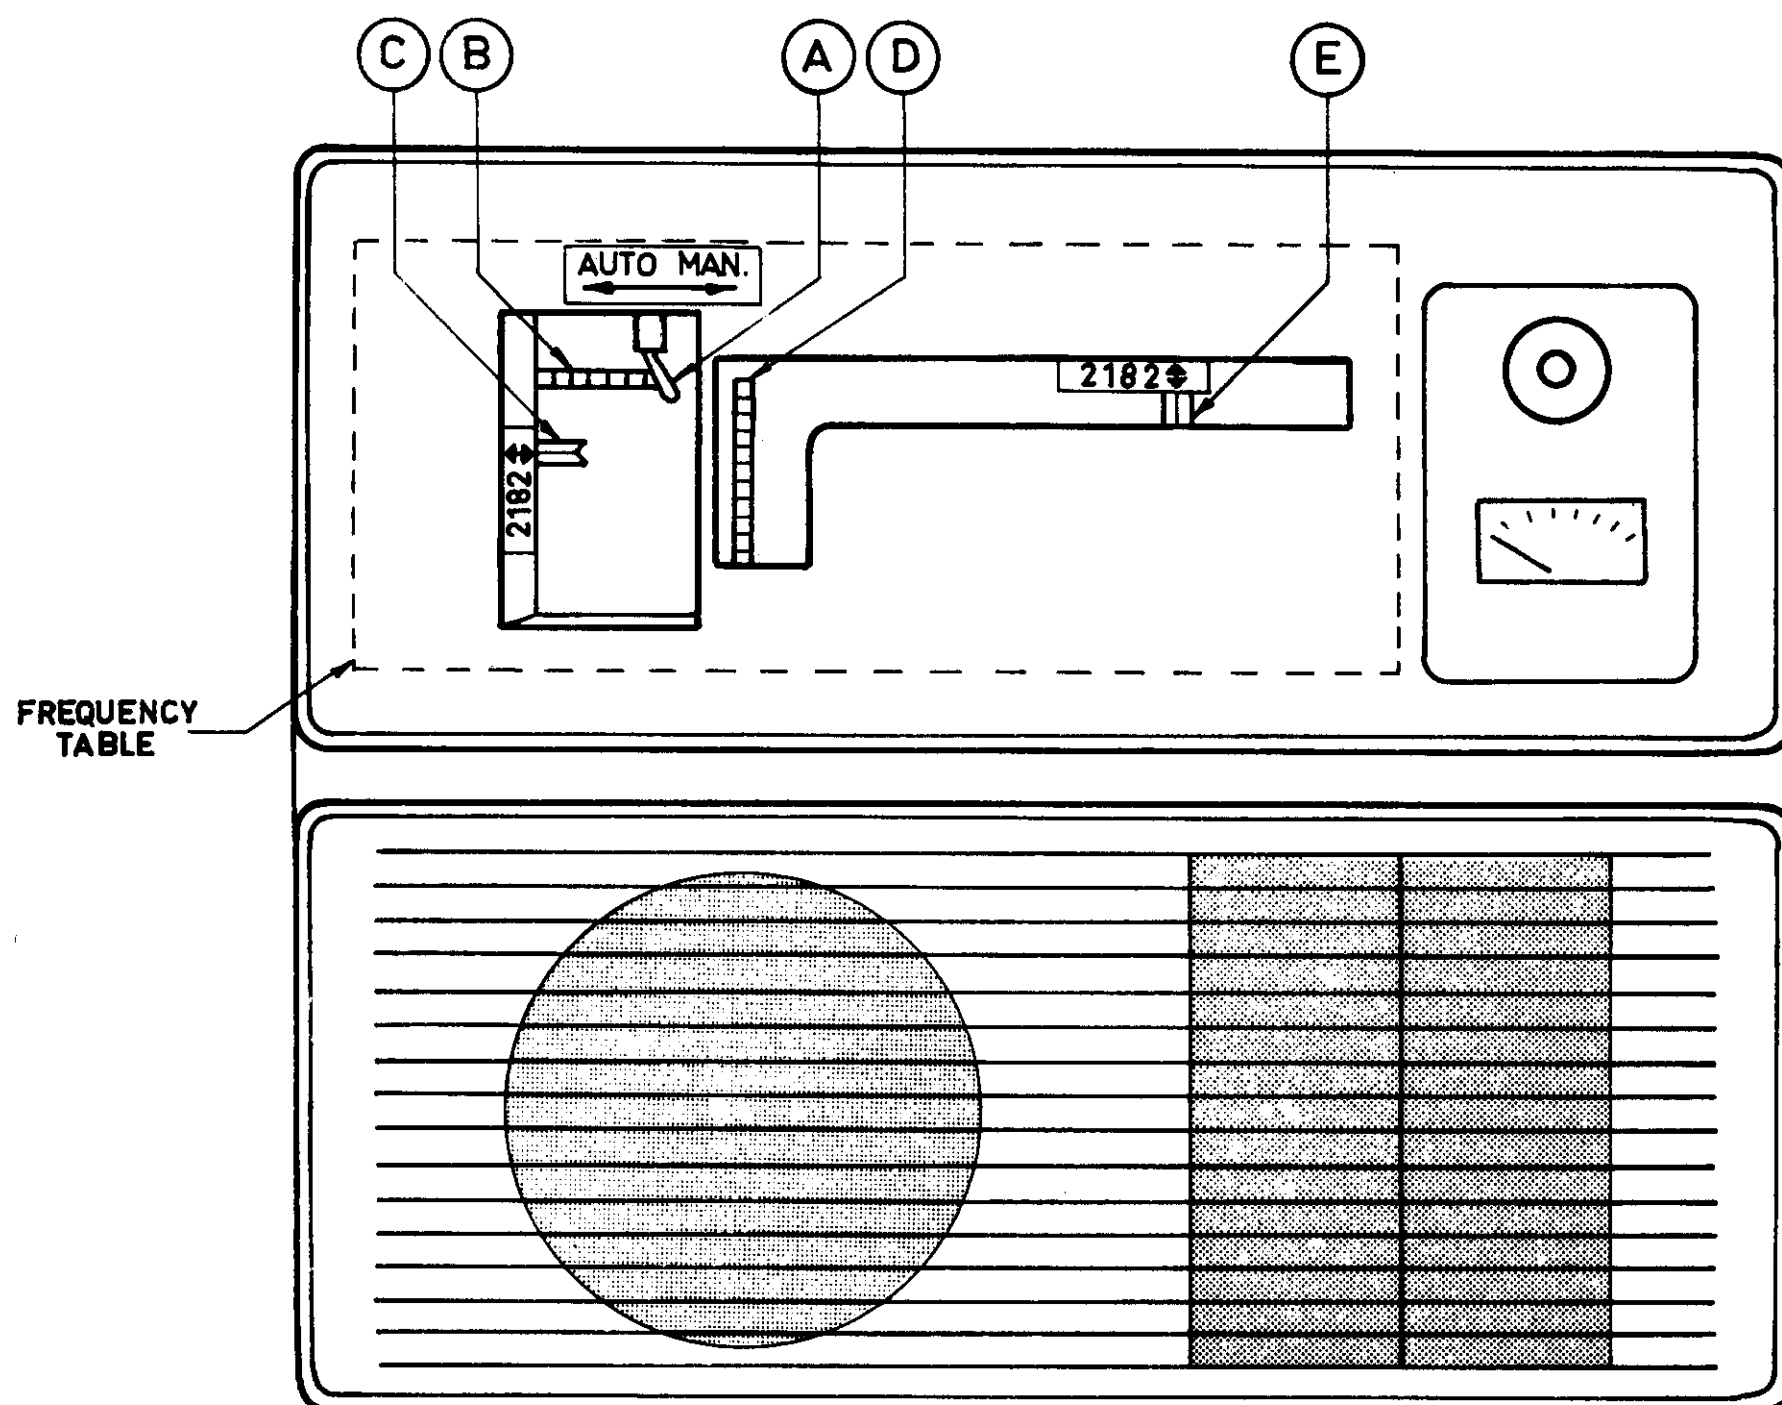

Fig. 4.6.1 Transmitter Unit
2. Remove Frequency Table from Transmitter Unit (Fig. 4.6.1)
4. Switch AUTO/MAN switch (A) to position MAN.
5. Rotate with a finger, wheel (B) until the roller (C) is positioned exactly at the 2182-marker.
6. Rotate with a finger, wheel (D) until the roller (E) is positioned exactly at the 2182 marker.